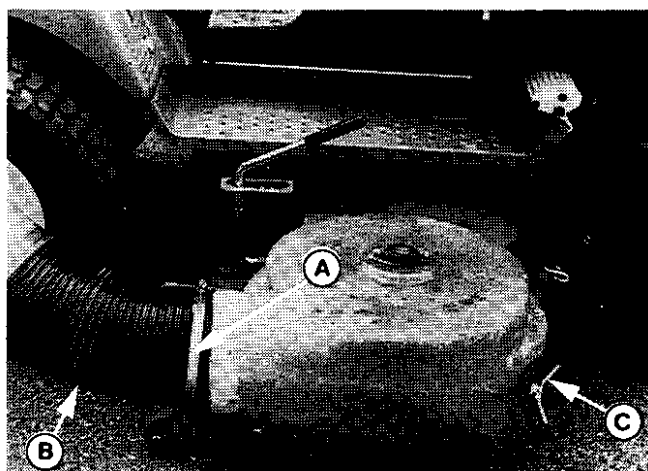
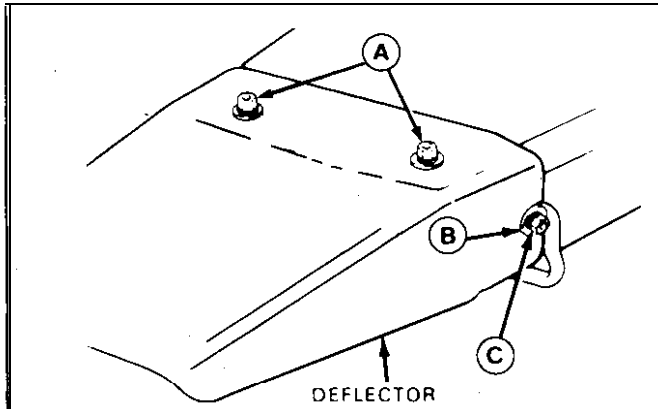

Figure 25.
Figure 28.
1. Attach the hose to the blower housing with clamp (A, figure 25) and tighten with a screwdriver or wrench.
To operate without the grass collection system, remove the blower assembly by removing the front wing nut (C, figure 25) and slipping belt off of the pulley. Re-install the mower deflector (figure 28) and the original hardware. Install **two** carriage bolts from bottom and **install** washers and nuts (A). Install the front washers (B) and nut (C). Be sure flat washers and **lockwashers** are used at all three locations.